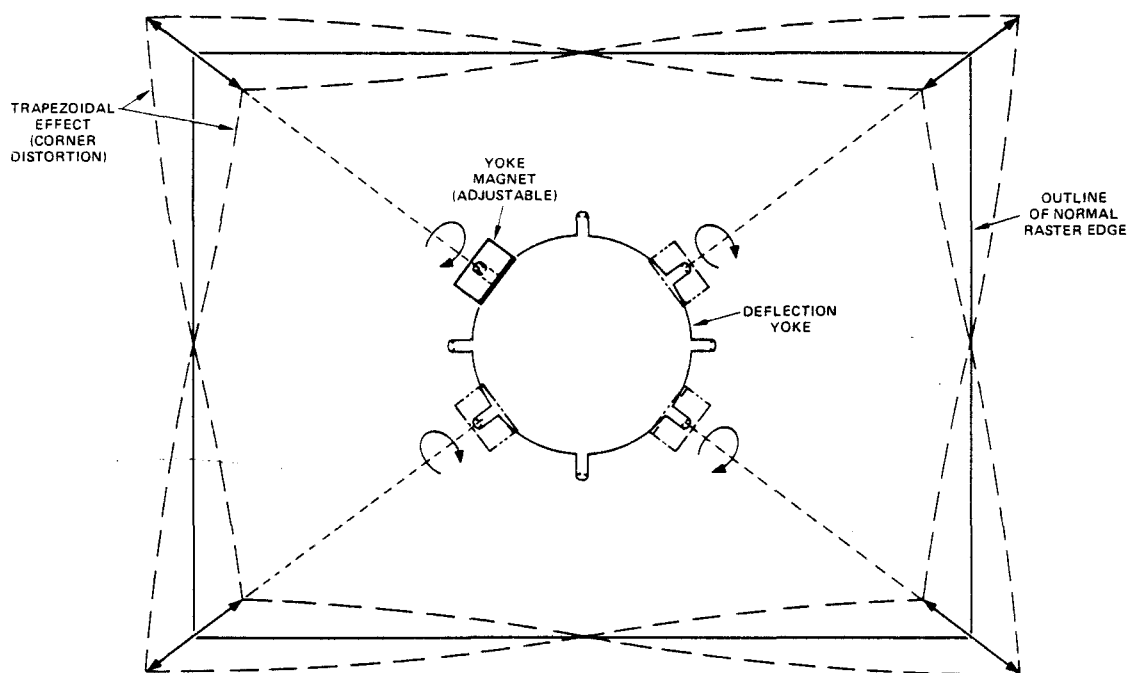

Figure 14. Trapezoidal Effect and Adjustment
Perform this adjustment if the raster exhibits the abnormal effects shown in Figure 14.
- Step 1. Push a magnet onto the yoke mounting pin as shown in Figure 14. Magnet should be placed only on the pin that corresponds to the affected area.
- Step 2. Rotate the magnet to obtain the desired raster, labeled "NORMAL" in Figure 14.